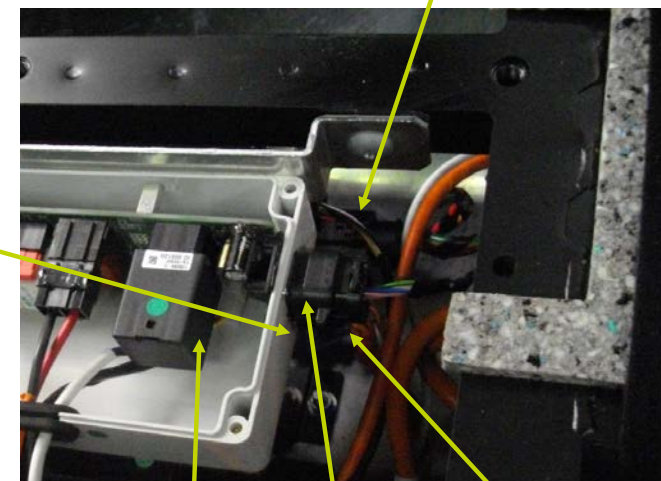

Fig.14
- Disconnect charger connector **(Rep 9)(Fig.14)** and connect to BRCAN electrical base plate **(Rep 10)(Fig.14)**.
- Connect wire **(Rep 12)** to P1 (where charger connector was connected previously) **(Rep 9)(Fig.14)** then connect to P2 on BRCAN electrical base **(Rep 11)(Fig.14)**.